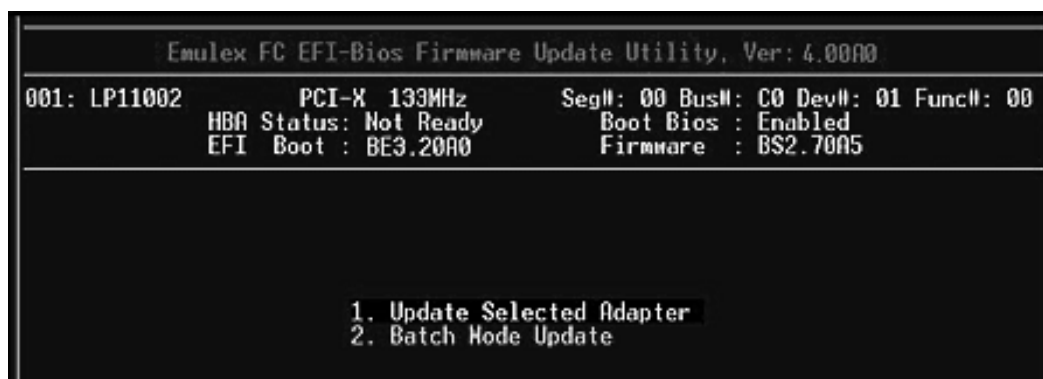

Figure 59: Update Selected Adapter
1. On the main EFI utility menu select **2. Firmware Update**, and press **<Enter>**. The Firmware Update Utility menu is displayed (Figure 59).